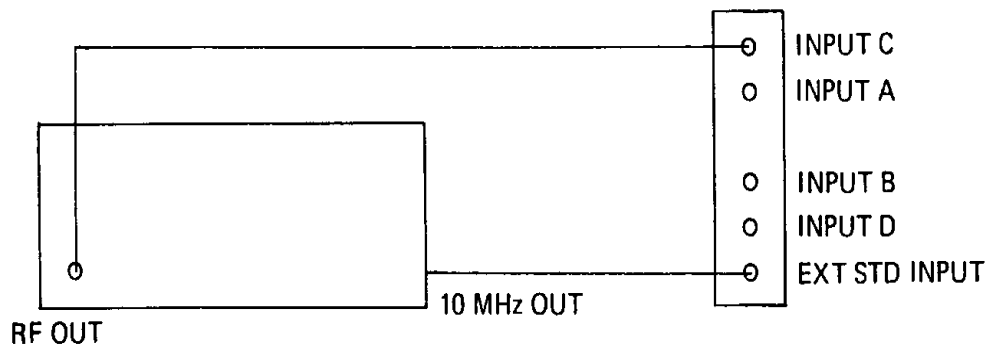

Figure 4-18, Input C Setup Configuration
4.5.4.1 Connect the signal generator to the counter as shown in **Figure 4-18**.